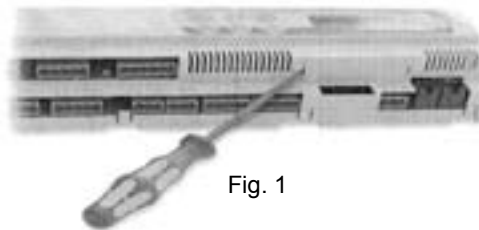

Fig. 1
- Switch off the pCO2 and remove the "expansion memory" cover with a screwdriver (see "Copy from pCO2 to the Software Key" on page 3–15/Fig. 1)
- Switch off the pCO2 and remove the "expansion memory" cover with a screwdriver (see Fig. 1)